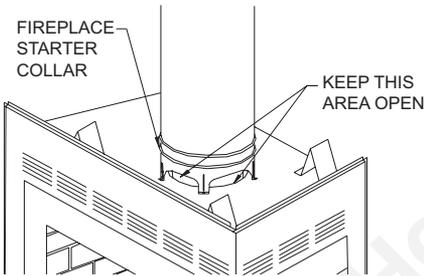

**Figure 26 - Cold Climate Installation**
3. Insulate walls of chase, both outer and interior partitioning wall (see Figure 26). Clearances from pipe to insulating material must be maintained.